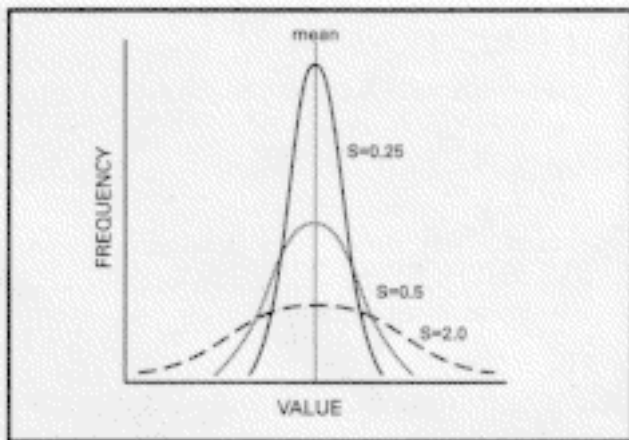

Figure 2. A small standard deviation corresponds to a "peaked" frequency distribution, and a large standard deviation corresponds to a "flat" one.
- **Standard deviation.** The standard deviation (symbolized  $s$ ) describes a population's deviation from the mean. It provides information about the amount of the variability in the results. As illustrated in Figure 2 below, a small standard deviation indicates little variability in the data and a large standard deviation indicates that the samples are more widely spaced.